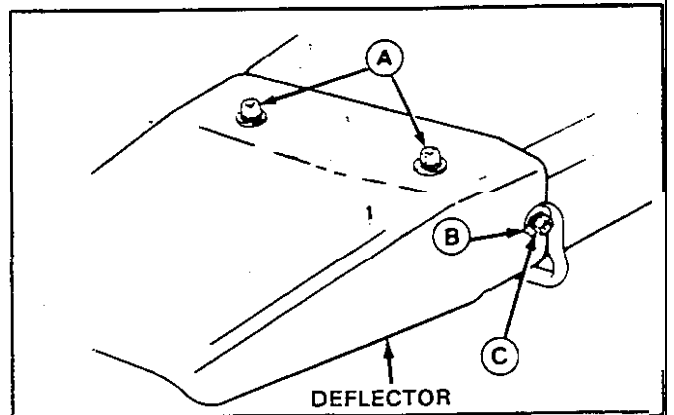

Figure 1.
1. To operate without the grass collection system, remove the blower assembly by loosening the front wing nut on blower housing and slipping belt off of the pulley. Reinstall the mower deflector (figure 1) and the original hardware. Install two carriage bolts from bottom and install washers and nuts (A). Install the front washers (B) and nut (C). Be sure flat washers and lockwashers are used at all three locations.